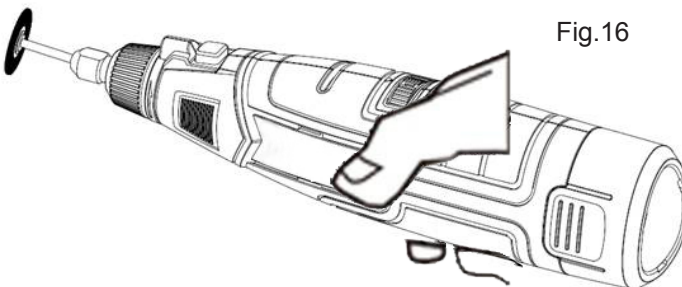

Fig.16
- (2) Hold the product like a hammer shaft for coarse work such as polishing with a steel wire brush (Fig. 16).